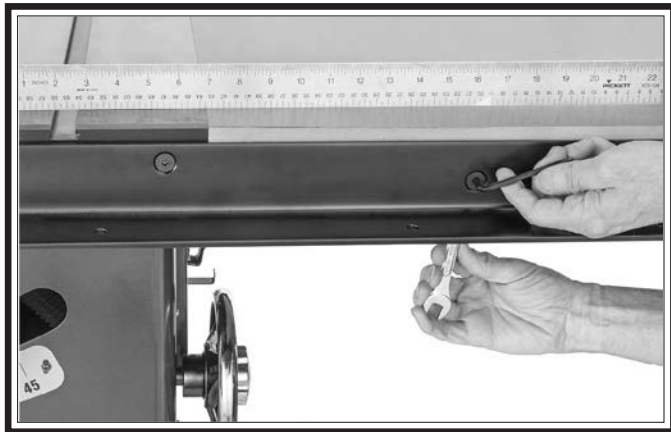

Figure 26. Aligning extension table.
- Align main table and extension table with straightedge, as shown in **Figure 26**, then tighten all mounting fasteners installed in **Steps 1-4**.